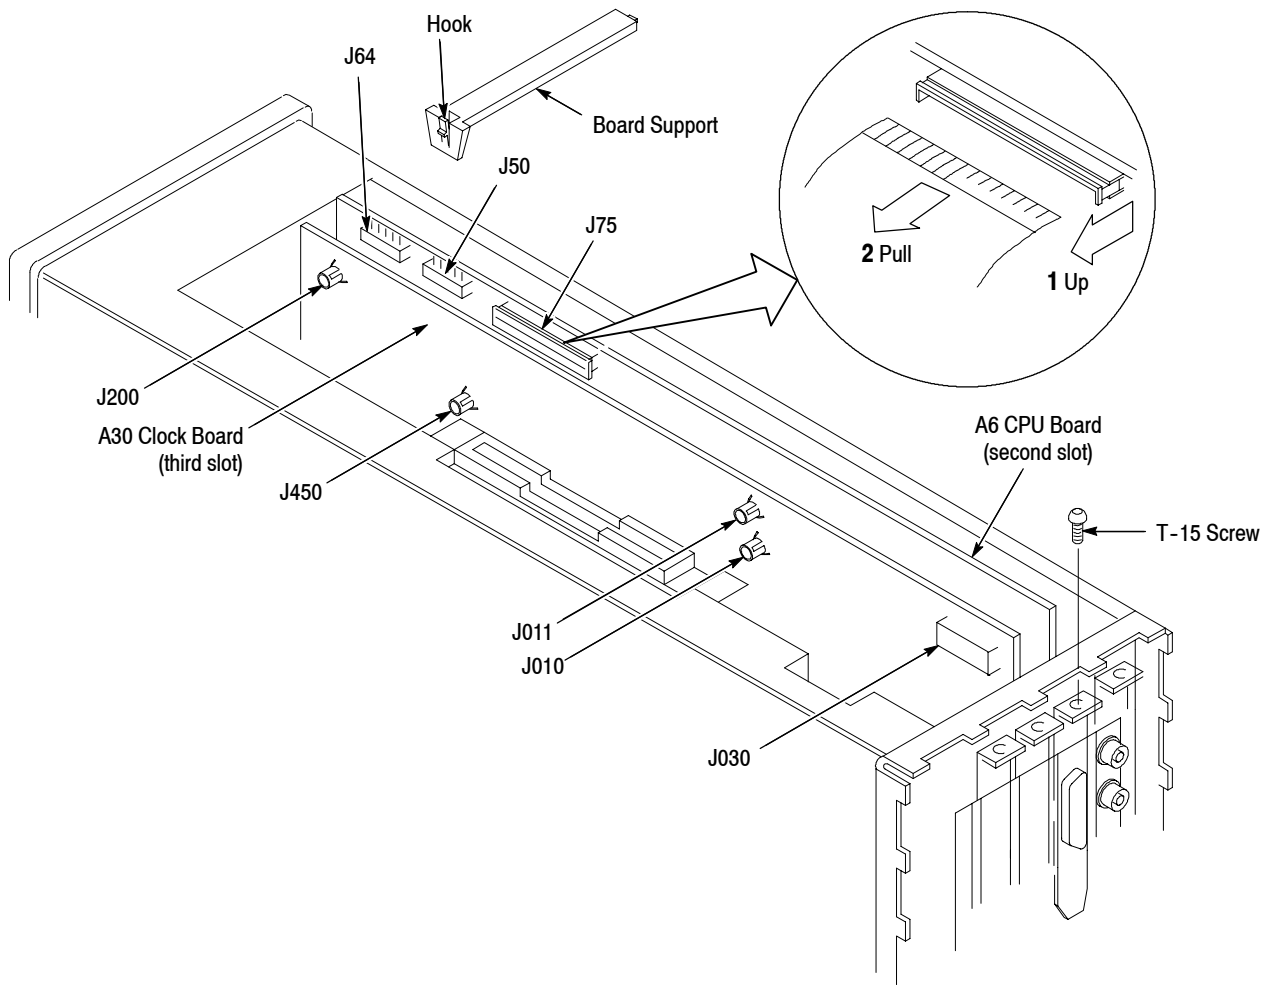

Figure 4: A6 CPU Board removal
7. Set the DG2030 with the left side down on the work surface and the top facing you (See Figure 4).
9. Disconnect the ribbon interconnect cables at J50, J64, and J64 on the A6 CPU board (See Figure 4).
10. Disconnect the flat cable at J75 on the A6 CPU board. Remove the flat cable as shown in Figure 4.